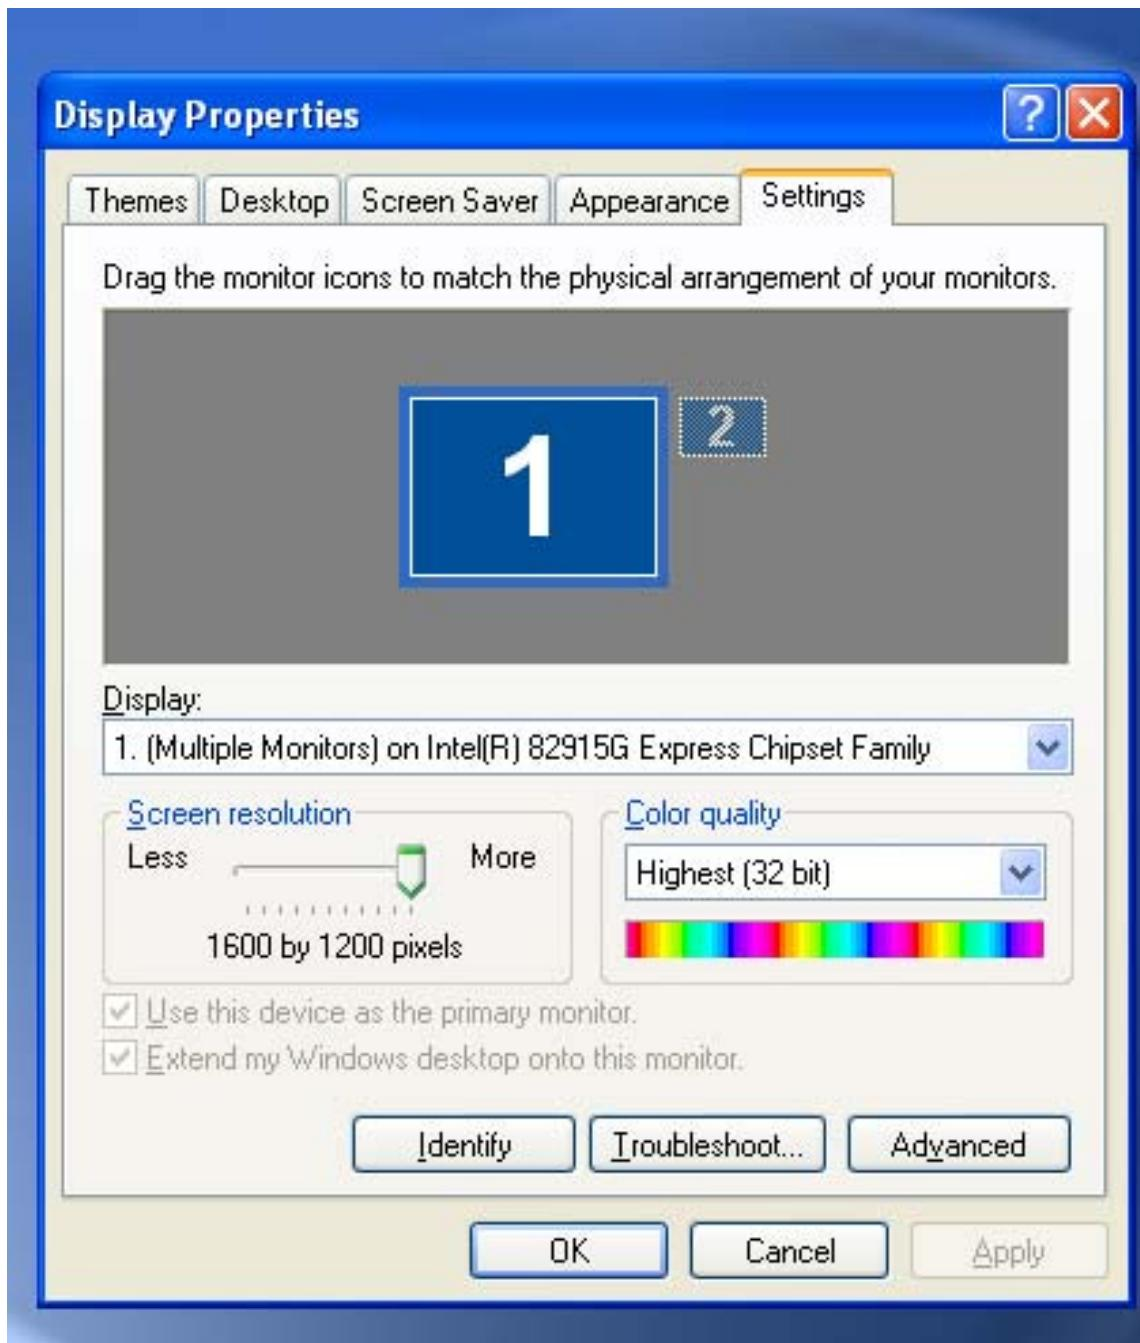

Figure 7. Changing Resolution
d. To change resolution, right click on the mouse and select Properties. Select the "Settings" tab as shown in Figure 7. The slider in the Screen Resolution box allows change of resolution. Slide the marker on the slider bar to the intended resolution and click OK.